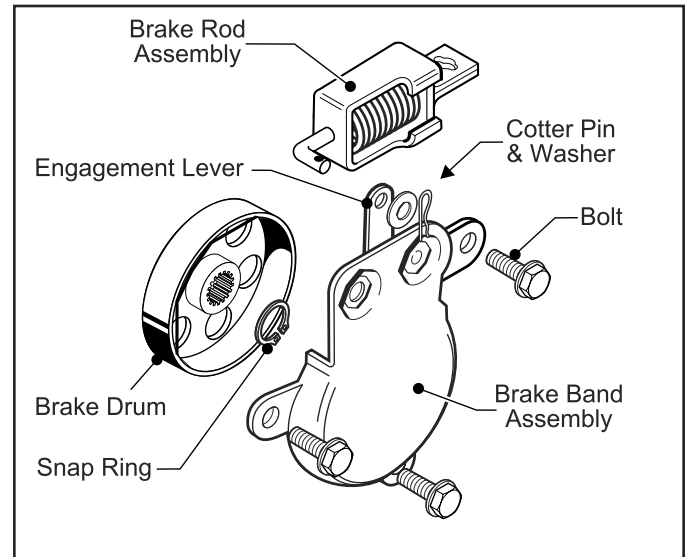

Fig. 48, Brake Band Assembly
2. Install the Brake Band Assembly; tighten (3) Bolts by hand. (Fig. 48, 49)